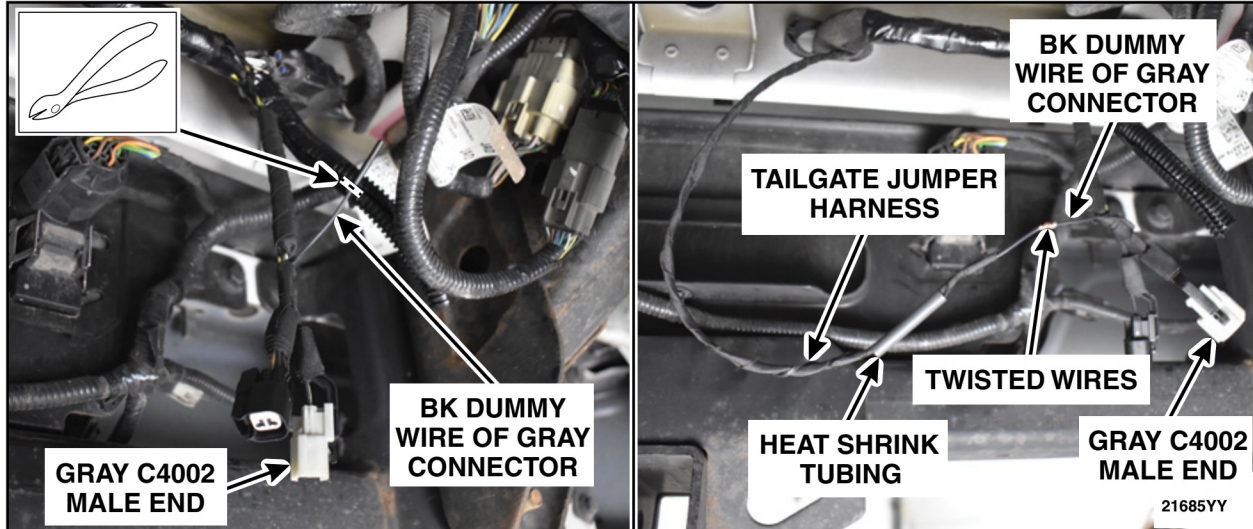

FIGURE 31
36. Remove any tape and/or convolute from the gray C4002 male end to expose the Black (BK) dummy wire. Cut the BK dummy wire just in front of the heat shrink tubing and discard the heat shrink end. Cut off the sealed terminal on the Tailgate Jumper Harness. Install a *new* piece of heat shrink tubing, twist the Tailgate Jumper Harness and the C4002 male end BK dummy wire together. See Figure 31.